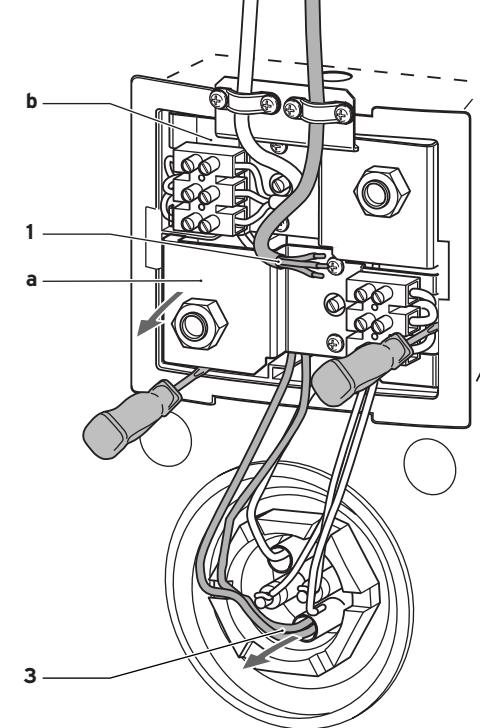

Fig. 5.5 Removing the cylinder control (Version B)
**(Version B, fig. 5.5:**
To remove the cylinder control (a) release the clips with two screw drivers as shown in fig. 5.5)